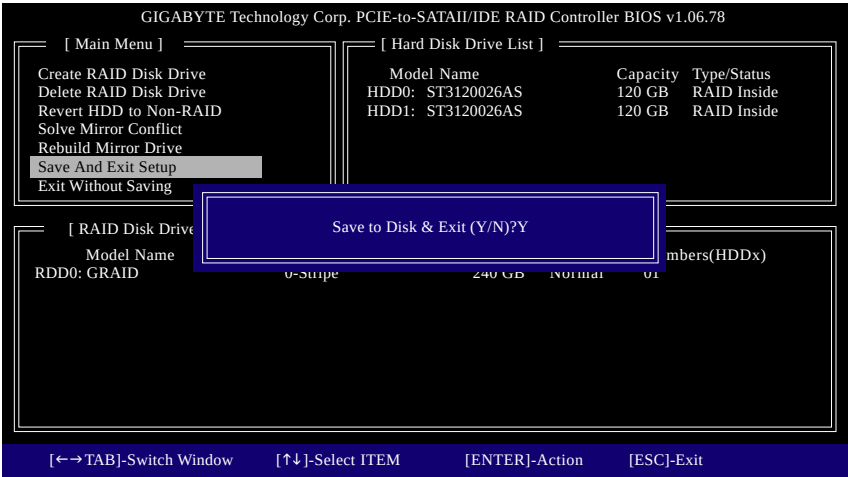

Figure 10
7. Save and Exit Setup: After configuring the RAID array, select the Save And Exit Setup item in the main screen to save your settings before exiting the RAID BIOS utility, then press <Y> (Figure 10).